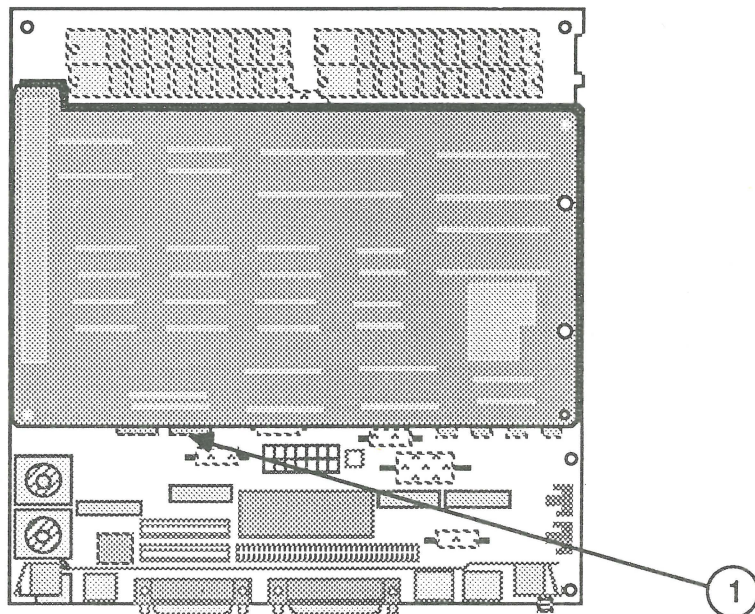

FIGURE 7
- IPL.13 Macintosh Display Card 4/8 (Figure 7)
5. Unplug the SE-Bus PC Card cable from the 26-pin connector on the SE-Bus PC Card (Figure 7, #1).